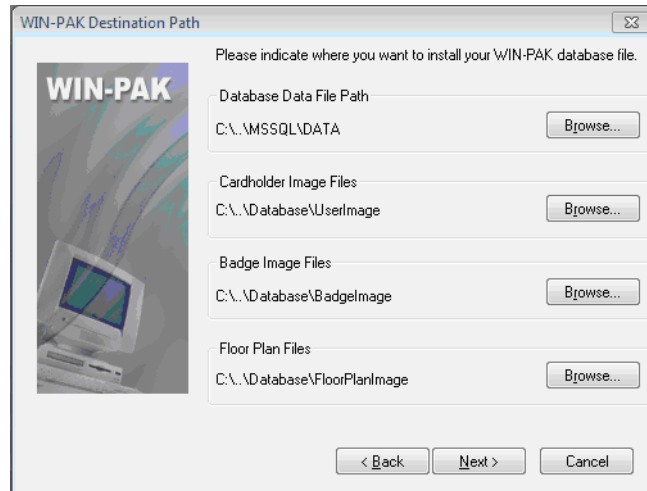

Figure 2-10 WIN-PAK Database path
3. Click **Next**. **Figure 2-10** appears displaying the WIN-PAK database file paths.